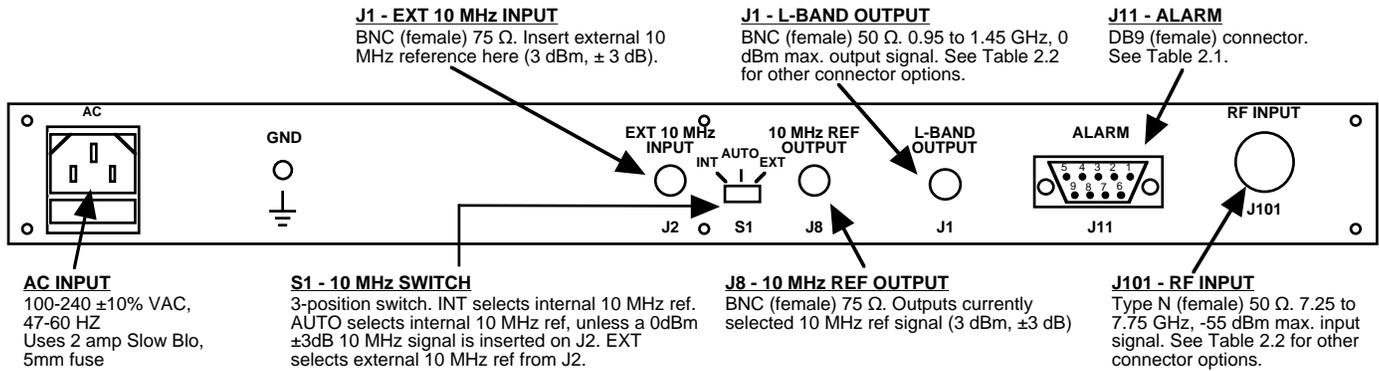

FIGURE 2.1 2116-72 Rear Panel I/O's
2.2 Rear Panel Input/Output Signals - Figure 2.1 shows the input and output connectors on the rear panel.
- 1.) Connect a -55 dBm to -35 dBm signal to RF INPUT, J101 (Figure 2.1).
- 5.) Select either INT (for internal 10 MHz ref), AUTO (for internal 10 MHz ref UNLESS a external 10 MHz, 0 dBm signal is connected to J2), or EXT (for external 10 MHz, 0 dBm reference that is inserted at J2) on rear panel switch S1 (Figure 2.1).
- 7.) Check that a 10 MHz, 0 dBm \pm 3 dB signal is present at the 10 MHz REF OUTPUT (J8) (Fig.2.1).